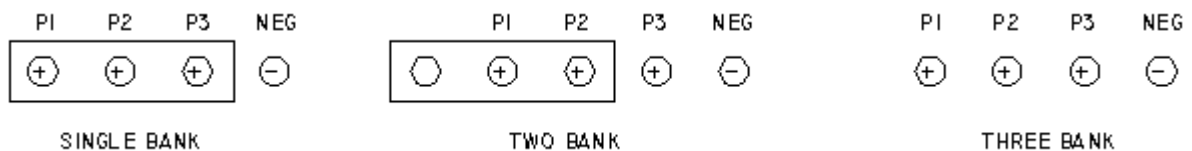

fig. 4 - 2
2. The *Case size 3* units use an IEC (International Electrical Code) approved dead front terminal block for the AC connections and 3/8" binding posts for the DC connections. The Quality Marine *VMI* Series Chargers are capable of charging up to 3 separate banks at one time. All of the banks must be of the same voltage and type. Determine the output jumper configuration that meets your needs for the number of banks connected to the charger. See *fig. 4 - 2*. Connect the positive cable (s) to the appropriate position (s), (P1, P2 & P3), and the negative cable to the position marked "NEG".
For 3/8" binding posts, remove the fastening nuts and washers and move the jumper to the desired position or remove for three bank output (see *fig. 4 - 2*).